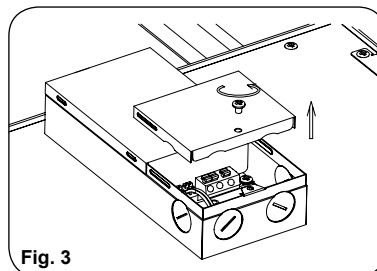
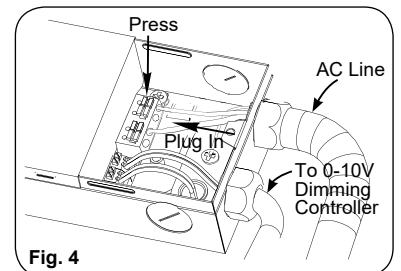

Fig. 3
Fig. 4
4. Remove electrical enclosure cover. (Fig. 3) Carefully remove knockout for AC line input wires. If using the 0-10V dimming controller; wires must run through a separate knockout than the AC input wire. Install listed electrical fittings in the knockout holes for wire protection if needed. (Fig. 4)